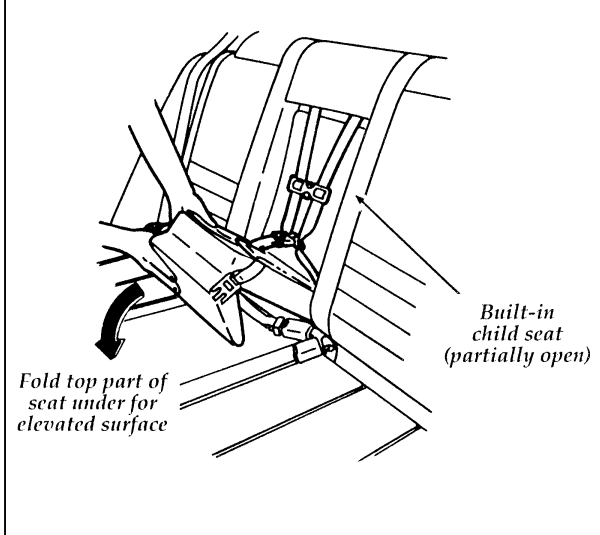

Figure 5: Unfolding built-in child seat
7. From outside the vehicle, grasp and pull on the shoulder belt portion of the combination lap and shoulder belt that secures the child safety seat in the vehicle. See Figure 5.
5. Fold the top half of the child seat under the child seat cushion to provide an elevated seating surface as shown in Figure 5.